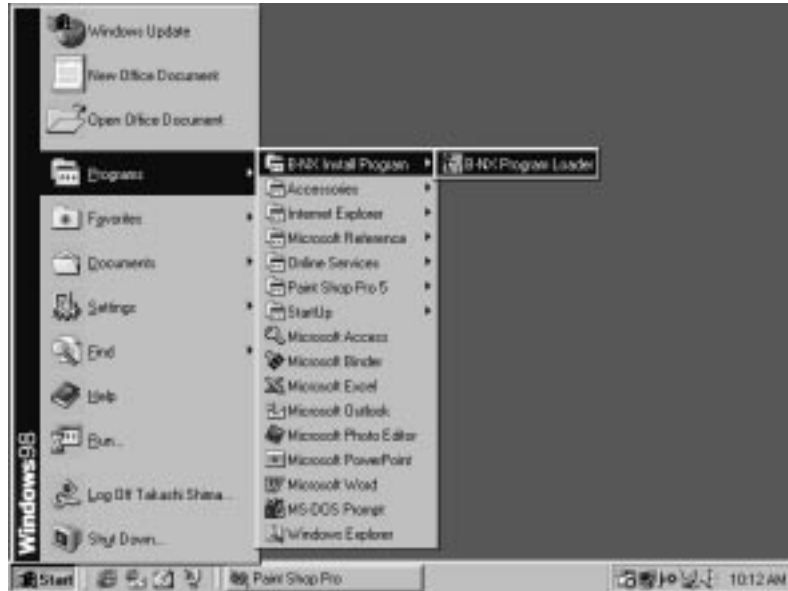

Fig. 8-9
4. Highlight "Programs" then highlight "TOSHIBA TEC" and click on B-NX Series Download Program as shown in the screen display of Fig. 8-9 below.